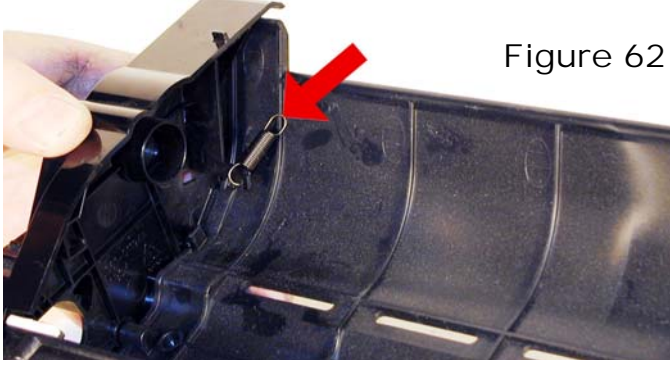

Figure 62
56) Install the hopper spring onto the end cap. **Fig. 62**